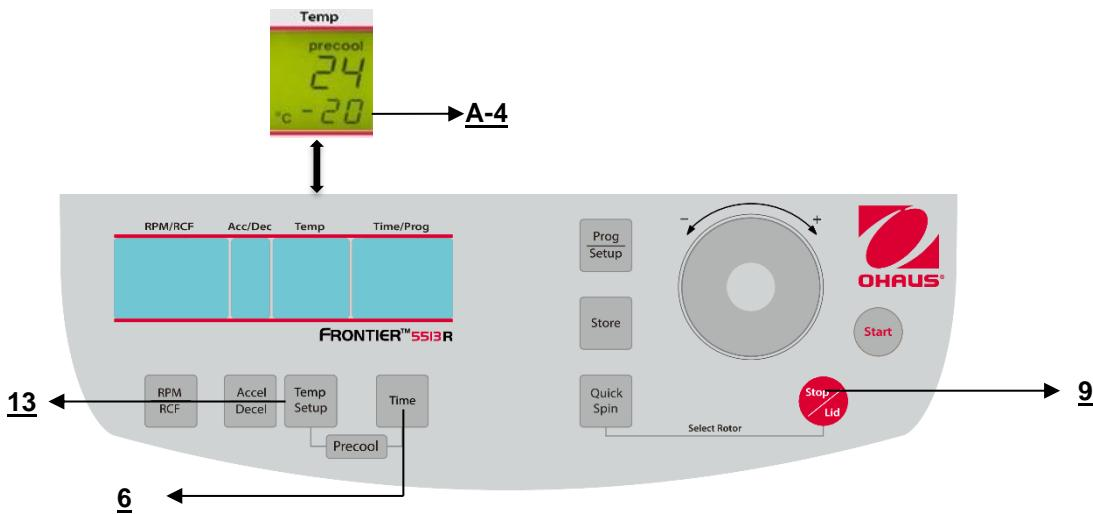

Figure. 17
If the samples are temperature-sensitive it is useful to pre-cool the centrifuge, the rotor and eventually the buckets to the required working temperature. Therefore, insert the desired rotor and pre-set the respective temperature. By simultaneous pressing the keys "Temp/Setup" (13) (refer to figure 17) and "Time" (6) you start the run. While running, the unit chooses automatically a rotational speed that is equivalent to 20 % of the permitted rotational speed of the respective rotor. After the pre-set temperature is reached you can leave the pre-cooling run with the "Stop" key (9). Depending on the inserted rotor the pre-cooling goes between approx. 10 and 20 min.